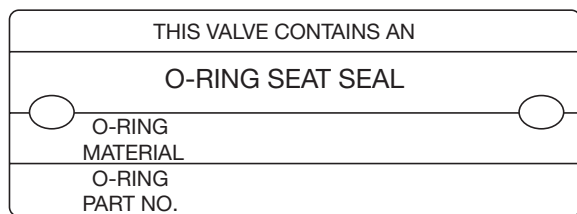

Figure 38: Valve O-Ring Tag
6. If the valve has an o-ring seat seal or Teflon™ seal (UM DA), the o-ring or Teflon™ should be replaced. Please refer to its tag plate (see Figure 38) to determine o-ring material and “as-built” part number.